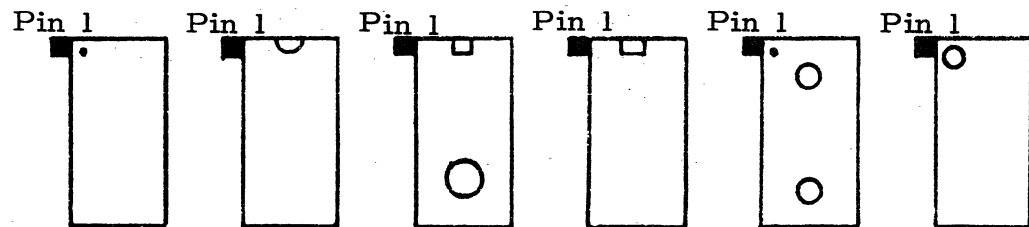

Figure 3 - IC Pin 1 Orientation
- Be careful to insert all IC's in correct positions and with the correct orientation (Figure 3).
correct orientation (Figure 3). Pin 1 is designated by a white dot adjacent to the upper left hand corner of each IC location.